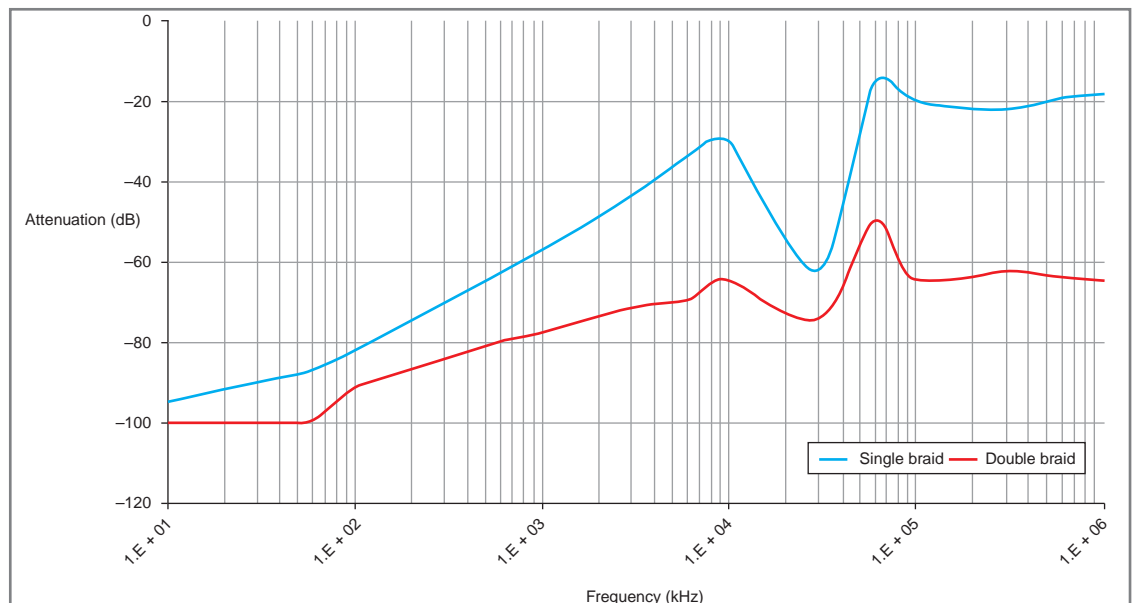

Figure 1—Shielding efficiency
Shielding interconnecting wires and cables is usually the only effective way to reduce the induced interference. Shielding effectiveness (SE) is one method of choice. SE is a measure of the unwanted signal attenuation in decibels (dB) which helps us to evaluate the circuit susceptibility to interference. Figure 1 shows the results of attenuation versus frequency measurements on a single- and a double-braided cable.
For better understanding, imagine you work in a darkroom. The EMI is an outside light and the shielding is an incompletely opaque window. You are interested in determining how opaque the window must be or how many such windows need to be stacked up to block enough light to prevent damage to a photographic material. As shown in Figure 1, SE is frequency dependent. A single-braided cable provides only about 26 dB (20×) attenuation at 10 MHz and a measly 20 dB (10×) from about 100 MHz up. This is something to keep in mind when working with fast computer interfaces and analog circuits even if their bandwidth is limited to a low frequency range, such as audio. Figure 1 also exhibits resonance around 30 MHz, which is often seen with shielded cables.
Manufacturers of shielded wires and cables rarely provide SE data, as it is dependent on installation. However, their cables usually comply with some industry standard, so their parameters will be essentially the same as for all cables in their category. Figure 1 is typical of what can be expected.